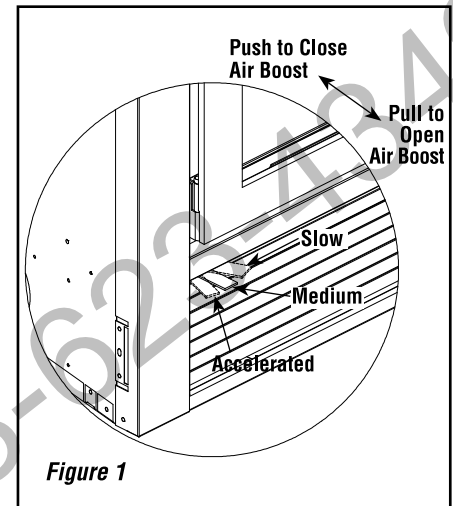

Figure 1
This is the recommended mode of operating the WRT4820WS fireplace and should be the one normally used since it will deposit the least amount of creosote on the glass and in the chimney. The combustion air control must be 3/4 closed (**Figure 1**) and pushed in to close the air boost. The precise setting will depend on many factors, including chimney length and the moisture content of the wood.
Creosote may accumulate on the glass door. This method of burning should be used only after operating the WRT4820WS fireplace with the air control opened (**Figure 1**) to produce a hot fire for about an hour or at medium pace for at least three (3) hours. Slow combustion can be used at night in order to reduce the heat output and to prolong the burn. The loading time will be between 6-8 hours.
The WRT4820WS fireplace will operate best if attention is given to operating the unit with the damper fully opened (**figure 1**) after refueling in order to bring the firebox and the chimney system up to their optimum operating temperature. Combustion efficiency is relative to firebox temperature. A temperature of 932° F (500° C) and up, with a visible flame, in the upper part of the firebox indicates a maximum efficiency. To obtain this temperature, the fireplace must be operated with the primary air and air boost controls fully opened during 10 to 20 minutes after reloading, depending on the heat and on the moisture content of the wood.